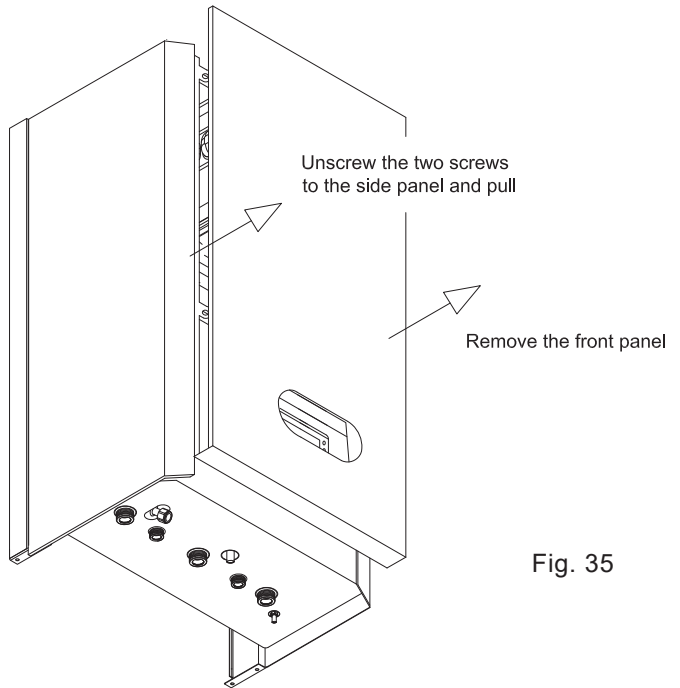

Fig. 35
8.3 TO REMOVE LEFT AND RIGHT PANELS (Fig. 35)